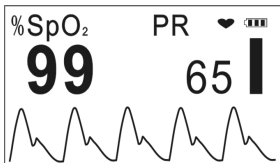
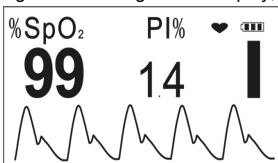
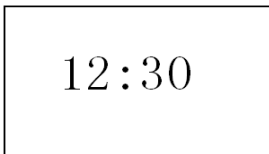

Figure 7A Default Screen
Figure 7B
Figure 7C Real Time Clock
4. The oximeter will automatically start measurement in 2 seconds. Then the default screen will be displayed (Figure 7A). User can read the values and view the waveform from the display screen.
- Short time press “■” key to switch display modes circularly, display screen will be switched among the screens as shown in Figure 7A, Figure 7B and Figure 7C.
- The measurement will start automatically when the finger is inserted into the soft rubber of the sensor, so the data recording (SpO₂ and PR values) starts simultaneously as well. The display is as shown in Figure 7A